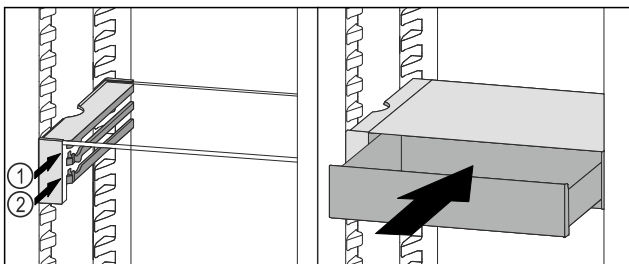

Fig. 106
- ▶ Place the VarioSafe drawer behind the stoppers on desired rib *Fig. 106 (1)* or *Fig. 106 (2)*.